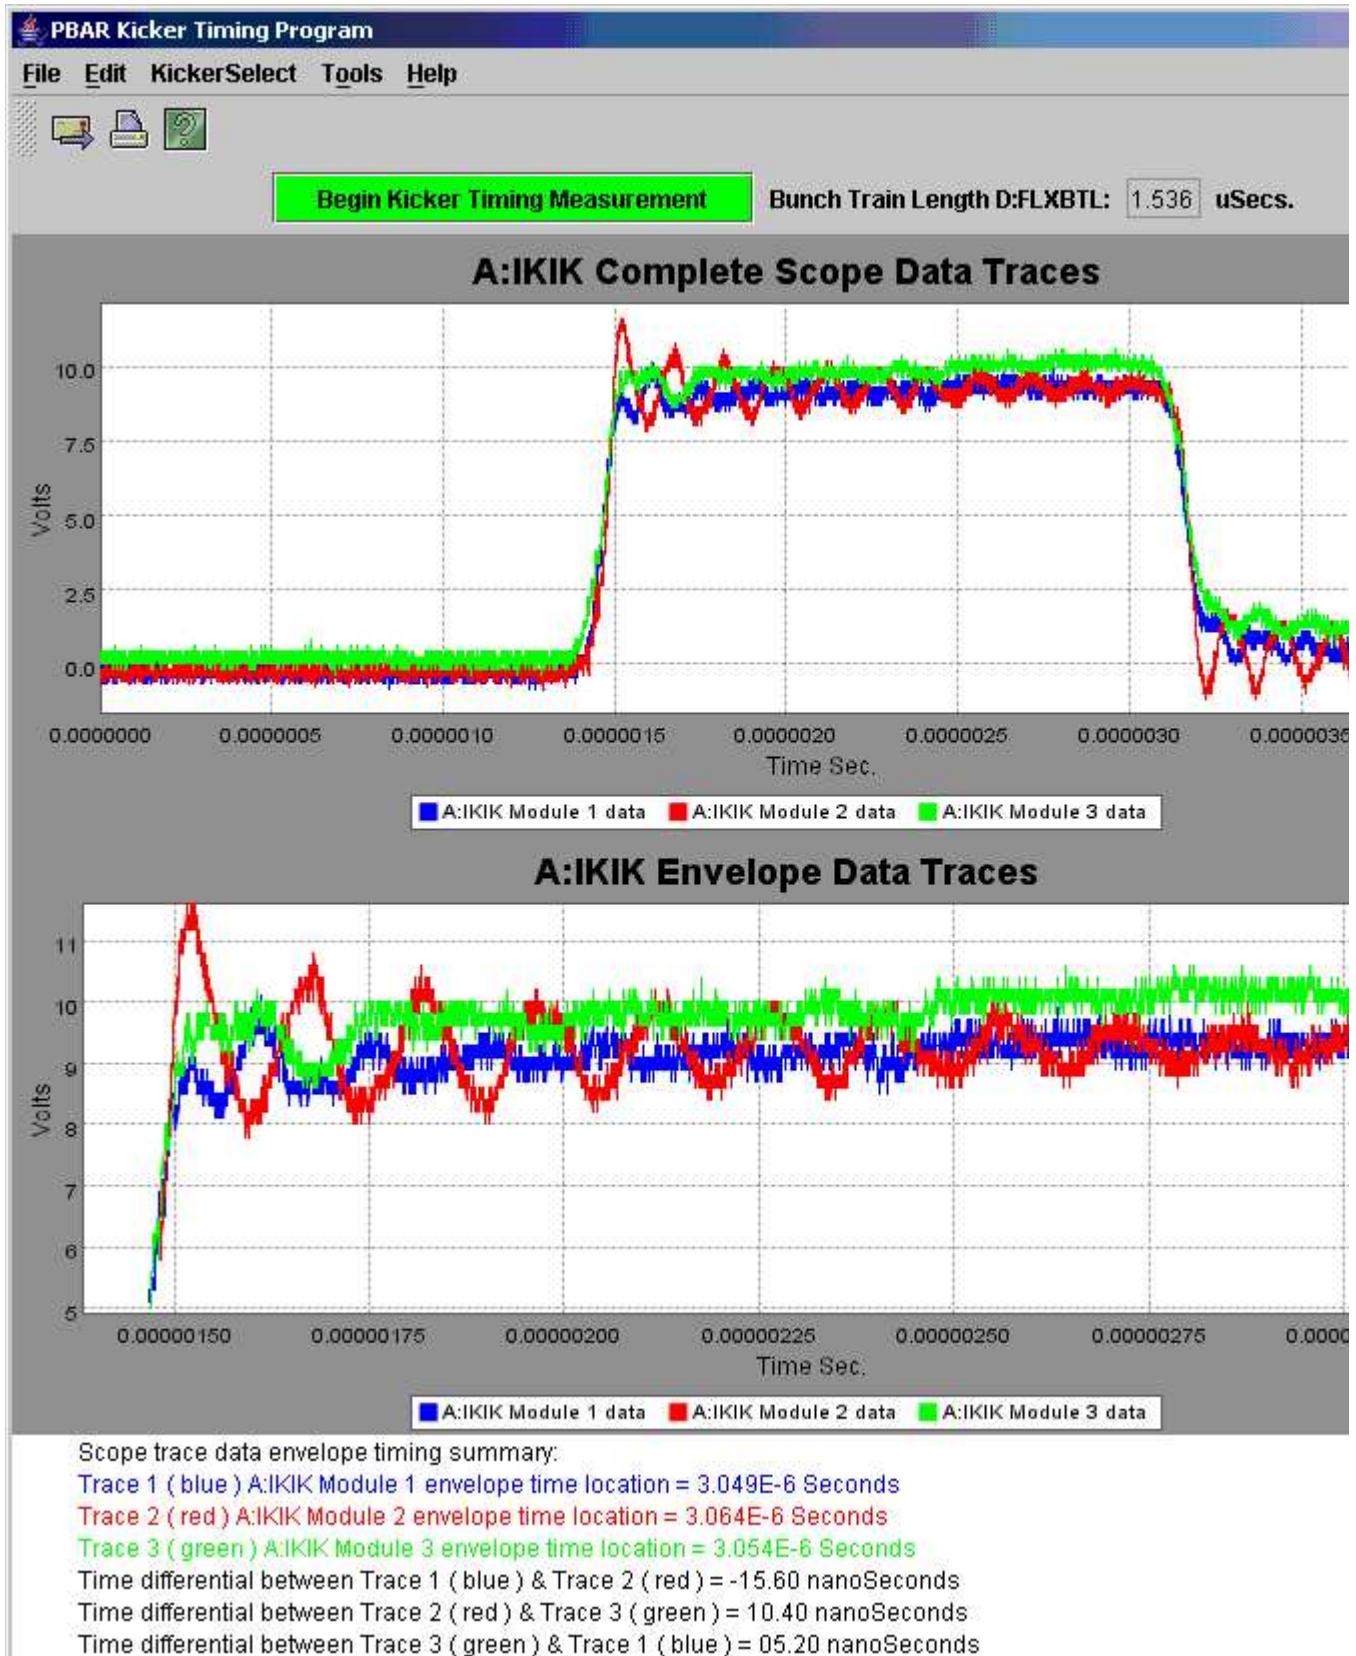

Figure 32: The Pbar Kicker Timing Program shows
12. Click on the green box that is labeled "Begin Kicker Timing Measurement" as shown in Figure 32. D:FLXBTL is used for Debuncher injection and can be ignored in this portion of the